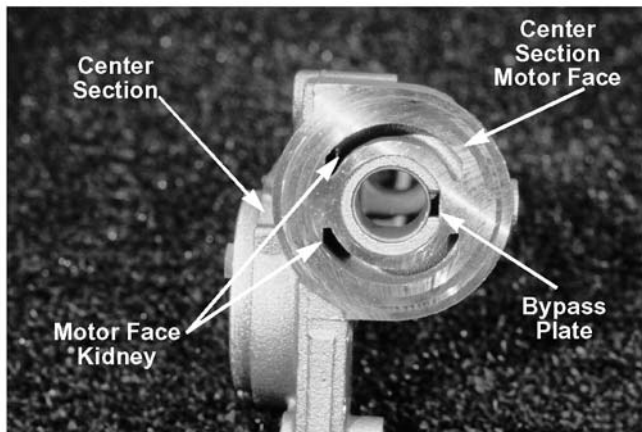

Figure 6-147
- D. Motor face kidney (each kidney port has a passage through the center section to the pump face kidneys) See Figure 6-147.